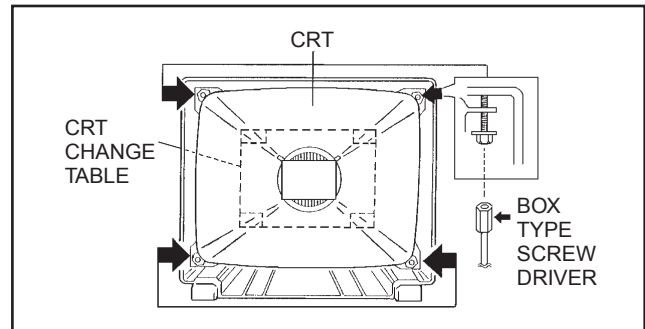

Fig.4
- (1) Remove the 13 screws **[A]** as shown in Fig.4.
- (2) Remove the REAR COVER toward you.
- (1) Remove the 2 screws **[D]** as shown in Fig.4, then remove the SPEAKER toward you.
- (2) Follow the same steps when removing the other hand SPEAKER.
- (1) Remove the 4 screws **[B]** and 1 screw **[C]** as shown in Fig.4.
- (2) Withdraw the AV TERMINAL BOARD toward you.
- (1) Remove the 1 screw **[F]** and 1 screw **[G]** as shown in Fig.4.
- (2) Remove the DIGITAL INPUT MODULE PWB.
- (3) Remove 4 screws marked by arrows with a box type screwdriver as shown in Fig. 4.